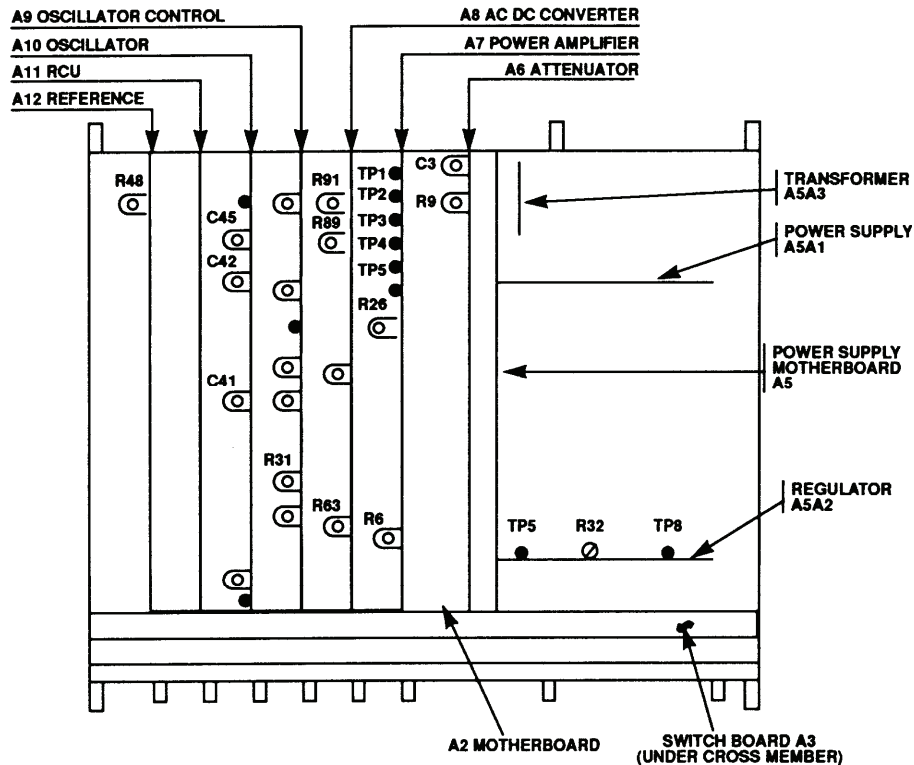

Figure 1. Ac calibrator - adjustment locations.
- (1) Connect true rms voltmeter to **QUADRATURE OUT** (rear of TI).
- (2) Set true rms voltmeter **FUNCTION** pushbutton to **FILT OUT**.
- (3) Connect frequency counter to **COUNTER OUT** (rear of TI).
- (4) Set **FREQUENCY RANGE-Hz** switch to **1 M** and **FREQUENCY** dials to **1.0520 MHz**.
(5) If frequency counter does not indicate between 1.0420 and 1.0620 MHz, adjust A10C41 and A10C45 (fig. 1) in equal amounts in the same direction until frequency counter indicates 1.0520 MHz (R).
(6) If true rms voltmeter does not indicate between 9 and 11 V, adjust A10C41 and A10C45 (fig. 1) in equal amounts in opposite directions until true rms voltmeter indicates 10 V (R).
(7) Set **FREQUENCY RANGE-Hz** switch to **100 K** and **FREQUENCY** dials to **80.00 kHz**.
(8) If frequency counter does not indicate between 79.6 and 80.4 kHz, adjust A10C42 (fig. 1) for a counter indication of 80 kHz (R).
(1) Connect multimeter between A7TP4 (LO) and A7TP5 (HI) (fig. 1) of the power amplifier board.
(2) Set **FREQUENCY RANGE-Hz** switch to **100 K** and **FREQUENCY** dials to **100.00 kHz**.
(3) Set **VOLTAGE RANGE** switch to **100 V** and **VOLTAGE** dials to **10.0000 V**.
(4) If multimeter does not indicate between 0.34 and 0.36 V dc, adjust A7R26 (fig. 1) for multimeter indication of 0.35 V dc (R).
(5) Set **FREQUENCY** dials to **50.00 kHz**.
(6) Measure distortion. Adjust A9R31 (fig. 1) for minimum distortion (R).
(7) Connect multimeter to TI **OUTPUT** and **SENSE** terminals, using two cables.
(8) Set **FREQUENCY RANGE-Hz** switch to **1 kHz** and **FREQUENCY** dials to **1.0 K**.
(9) Set **VOLTAGE RANGE** switch to **10 V**, **VOLTAGE** dials to **10.00000 V** and **SENSE** switch to **EXT**.
(10) If multimeter does not indicate between $\pm 100 \mu\text{V}$ dc, adjust A7R6 (fig. 1) for a within-tolerance indication (R).
b. Adjustments (Figure 1)**NOTE**